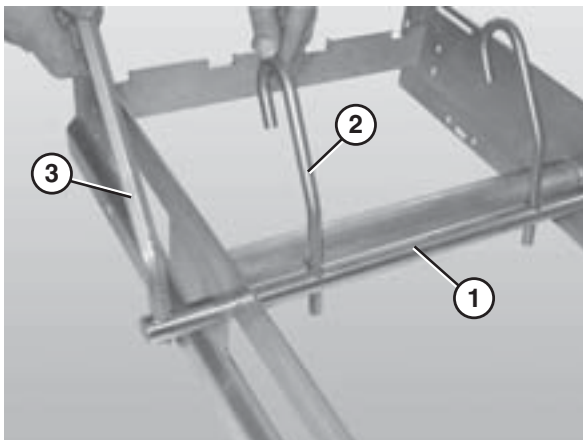

Figure 26
1. Slide the belt lift pivot bar (Figure 26, item 1) through the designated holes in the frame. The pins on the belt lift pivot bar should be located inside the frame side rails.
2. Attach the lifter bars (Figure 26, item 2) to the belt lift pivot bar (Figure 26, item 1). Make sure the hooked ends of the lifter bars are facing down when resting against the frame.
3. Attach the lifter handle (Figure 26, item 3) to the belt lift pivot rod.